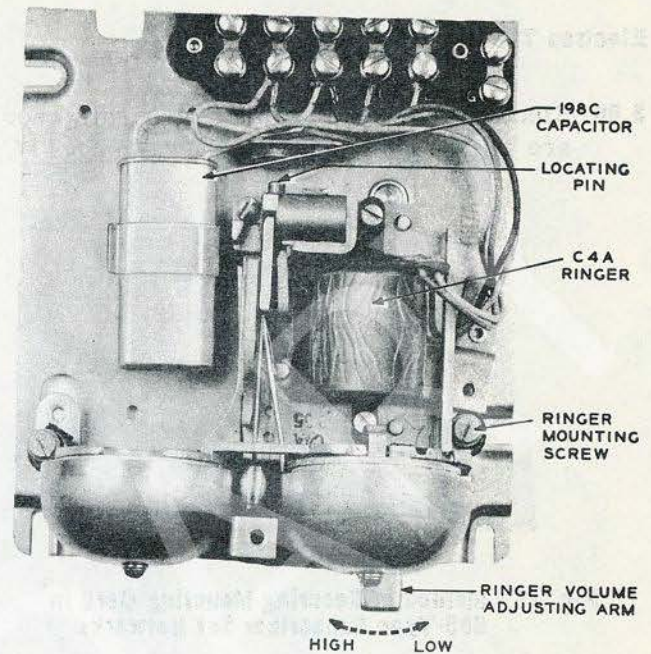

Fig. 14 - Assembly of C4A Ringer in 685-, 6-, 7-, and 8-Type Subscriber Sets, Front View
3.01 The C4A ringer is provided in 685-, 6-, 7-, 8-, and 690-type subscriber sets (Fig. 14).